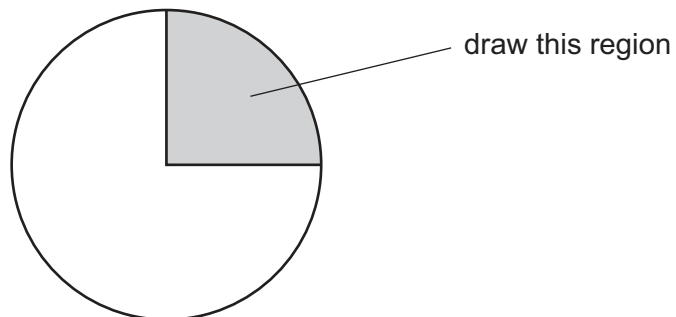

Fig. 2.1
- (a) (i) Draw a large plan diagram of the region on **M1** indicated by the shaded area in Fig. 2.1.